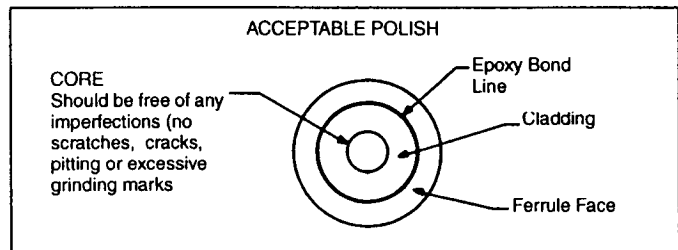

Figure 1
24. Polish terminus until an optically acceptable fiber end has been produced, approximately 1 minute. (See Figure 1). If a small amount of epoxy is on the polished surface, continue polishing until no epoxy can be seen with the naked eye. Inspect end of the optical fiber for desired finish by examining it with the Fibrscope* portable microscope or other microscope. Repeat polishing if required.
29. Using a circular motion of approximately 2 inches in diameter, polish terminus on 1 micron lapping film backed by a smooth hard surface, approximately 40-50 seconds. If a small amount of epoxy is on the polished surface, continue polishing until no epoxy can be seen with the naked eye. Inspect end of the optical fiber for desired finish using a microscope. (See Figure 1). Repeat for other termini. (For an exceptionally fine finish, continue polishing terminus for 20-30 seconds using .3 micron lapping film. Thoroughly clean termini before proceeding with this step).